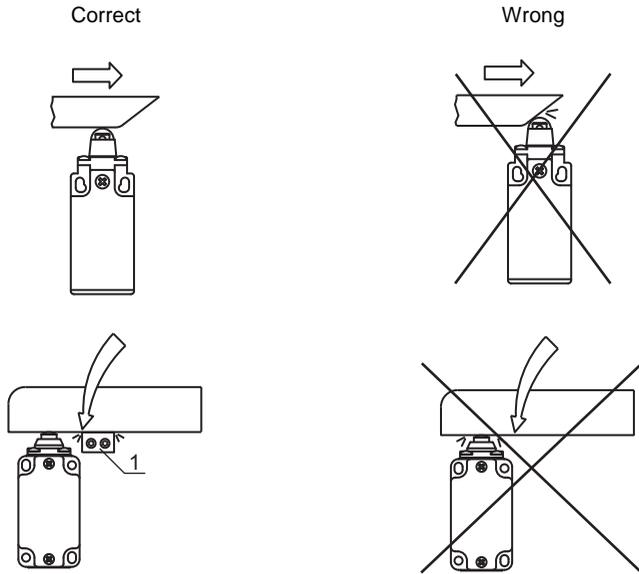

Figure 6.3: Mechanical limit stop (1)
- ↪ Use separate mechanical limit stop (see figure 6.3).